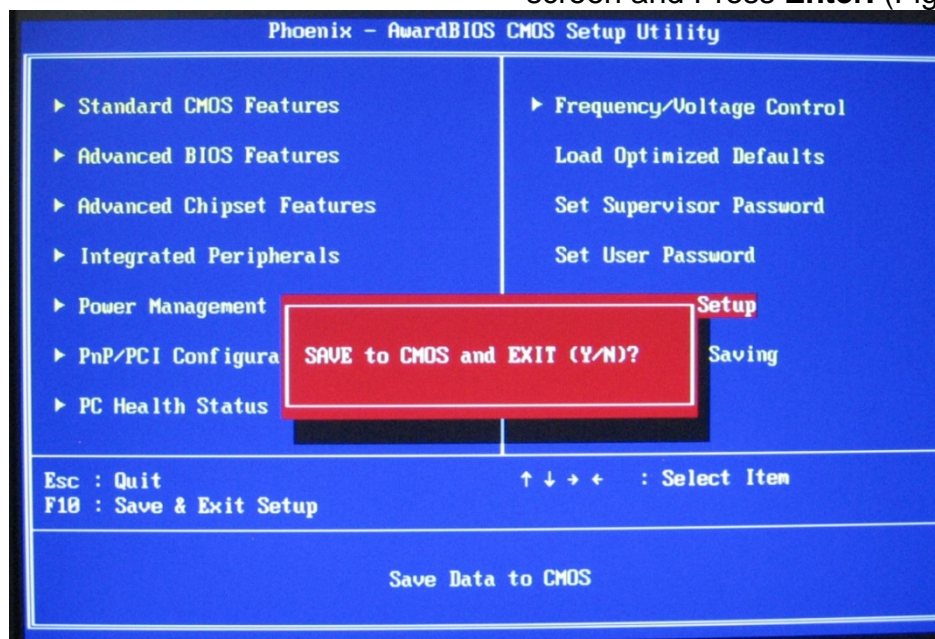

Figure 7-41 Save Changes and Exit
31. Select **Y** on the **Save to CMOS Popup** screen and Press **Enter**. (Figure 7-41).